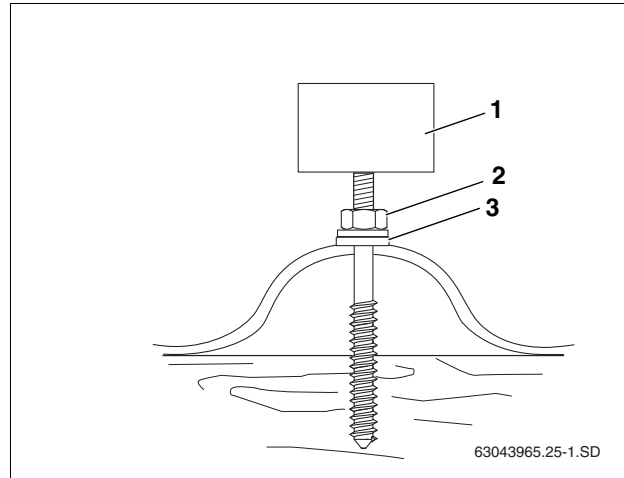

Fig. 21 Post screw installed on a corrugated roof
- ▶ Tighten the nut (Fig. 21, [2]) so the gasket (Fig. 21, [3]) is pressed against the roof surface making a seal.
- ▶ Verify that the attachment block (Fig. 21, [1]) is screwed on tight and oriented horizontally.